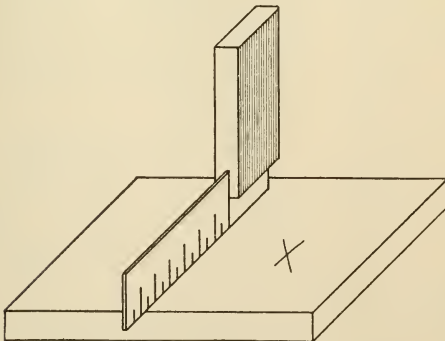

FIG. 7.—TESTING SURFACE OF BOARD.
2. **Surfacing one side.**—Select a surface that is flat and without wind; with this surface up, lay the board on the bench with one end against the bench stop, which is some kind of a wooden or iron plug projecting from one end of the bench; and with the plane, plane the surface smooth and flat. Test the surface across the grain and with the grain by the try-square as in Fig. 7. (Wind is a twisting curve or warp in some boards.)
3. **Planing one edge.**—When one surface is planed smooth and true, two witness marks (see Fig. 7) are made on this sur-